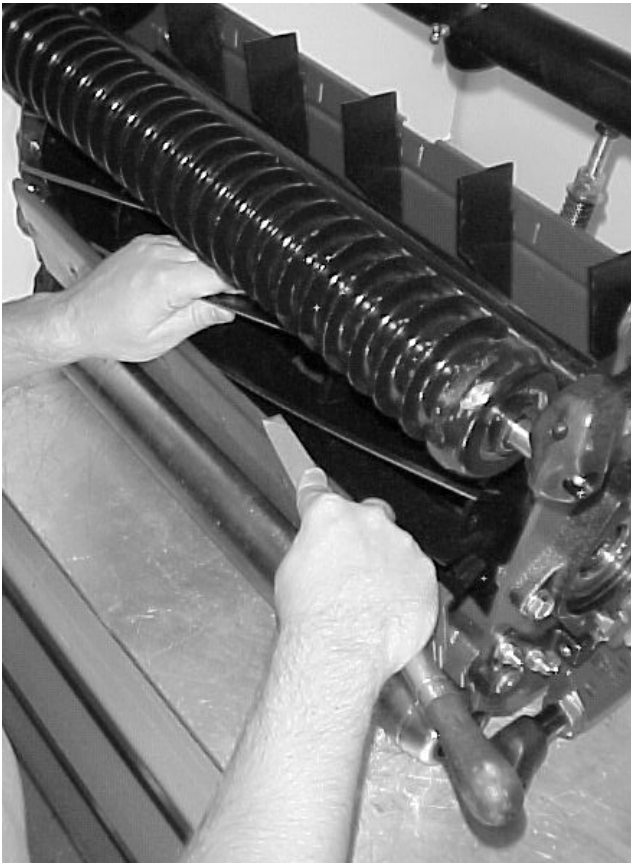

Figure 72
11. When the cutting unit is adequately sharpened, a burr will form on the front edge of the knife. Using a file, carefully remove the burr without dulling the cutting edge (Fig. 72).